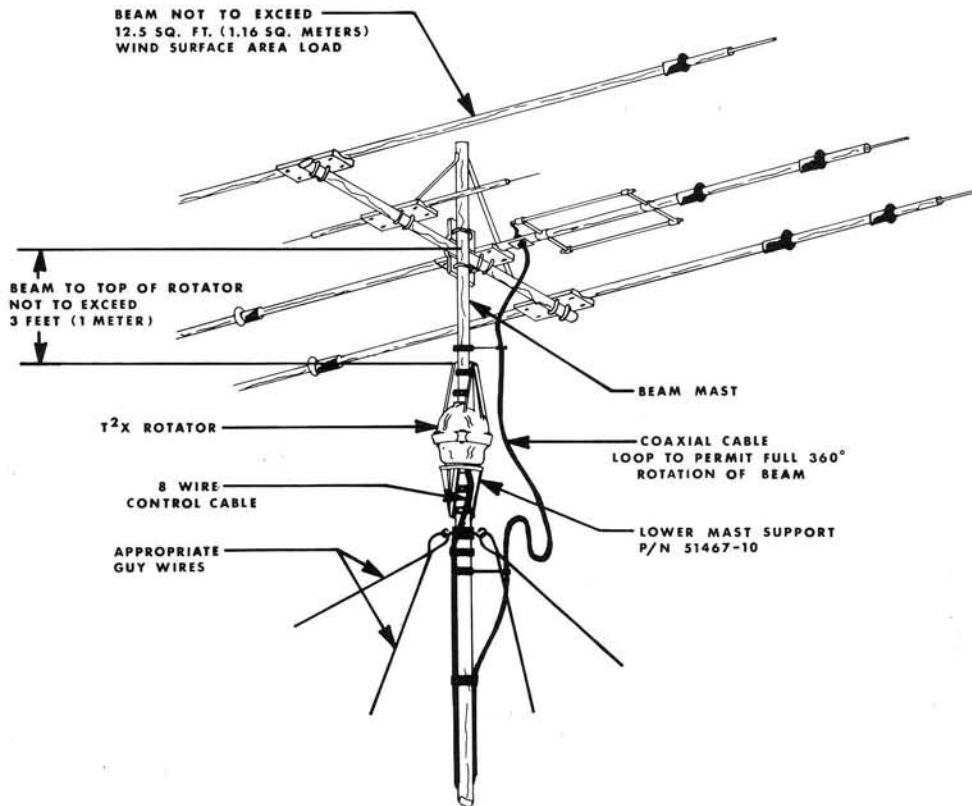

FIG. 3 - POLE MOUNTING
3. A telescoping or other type as shown, see figure 3, can also be used. This installation is similar to #2 above and requires the optional Heavy Duty Lower Mast Support Kit and must be derated to 12.5 square feet (1.16M²).